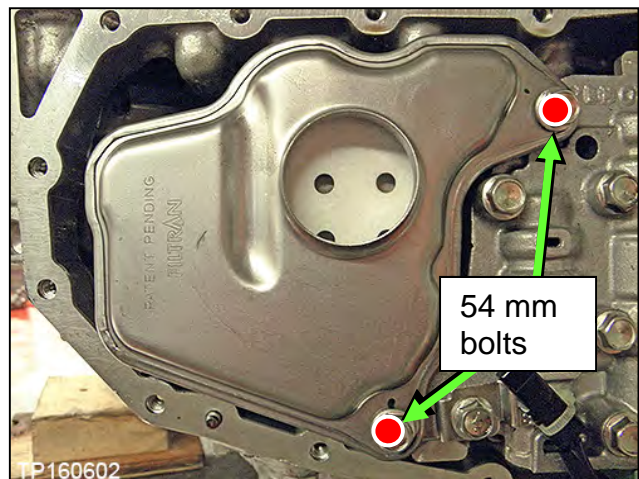

Figure 161
121. Install the new oil strainer with its new O-ring seal with two (2) bolts (Figure 161).